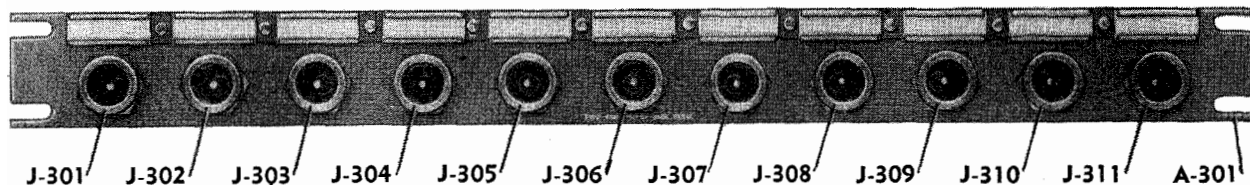

Figure 1-4. Model RXA Antenna Multicoupler Assembly, Jack Panel
*c.* JACK PANELS. (See figure 1-4.)—Three of the seven jack panels supplied with the equipment are furnished complete with coaxial cable assemblies.